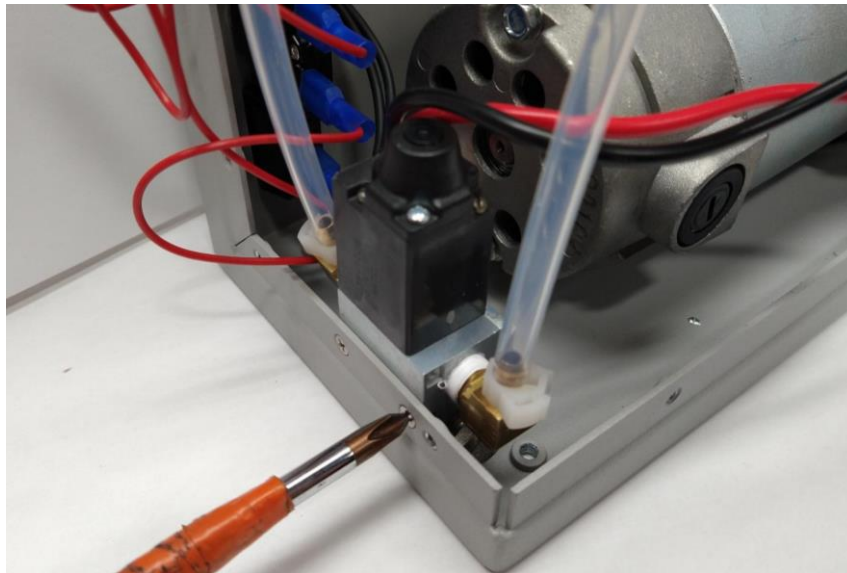

Figure 4-2: Removing solenoid from casing
- Do not disconnect the three black wires from the solenoid; they should be long enough to allow you to set the solenoid down on a flat surface for cleaning. See Figure 4-2.